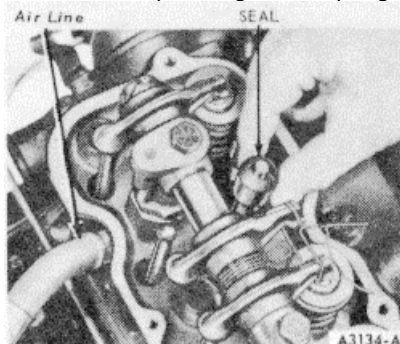

FIG 34. Removing Valve Stem Seal
6. Remove the valve stem seal (Figure 34). If air pressure has forced the piston to the bottom of the cylinder, any removal of air pressure will allow the valve(s) to fall into the cylinder. A rubber band, tape or string wrapped around the end of the valve stem will prevent this condition and will still allow enough travel to check the valve for binds.